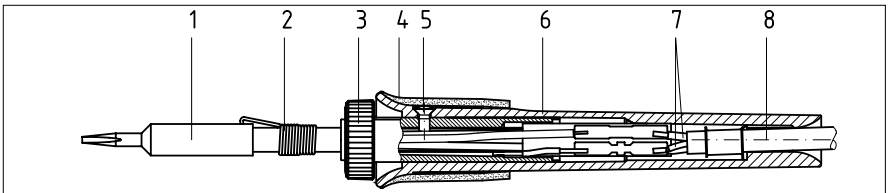

Figure 22
- Pull off cooled tip (pos. 1/fig. 22) and tip mount (pos. 2/fig. 22) from the heating element. Pull off handle pad (pos. 4/fig. 22).
- Unscrew handle mounting screw (pos. 5/fig. 22).
- Pull off handle (pos. 6/fig. 22).
- Disconnect soldering connection between the heating element (pos. 3/fig. 22) and the connecting wire (pos. 7/fig. 22).
- Change the heating element (pos. 3/fig.22) or connecting lead (pos. 8/fig. 22).